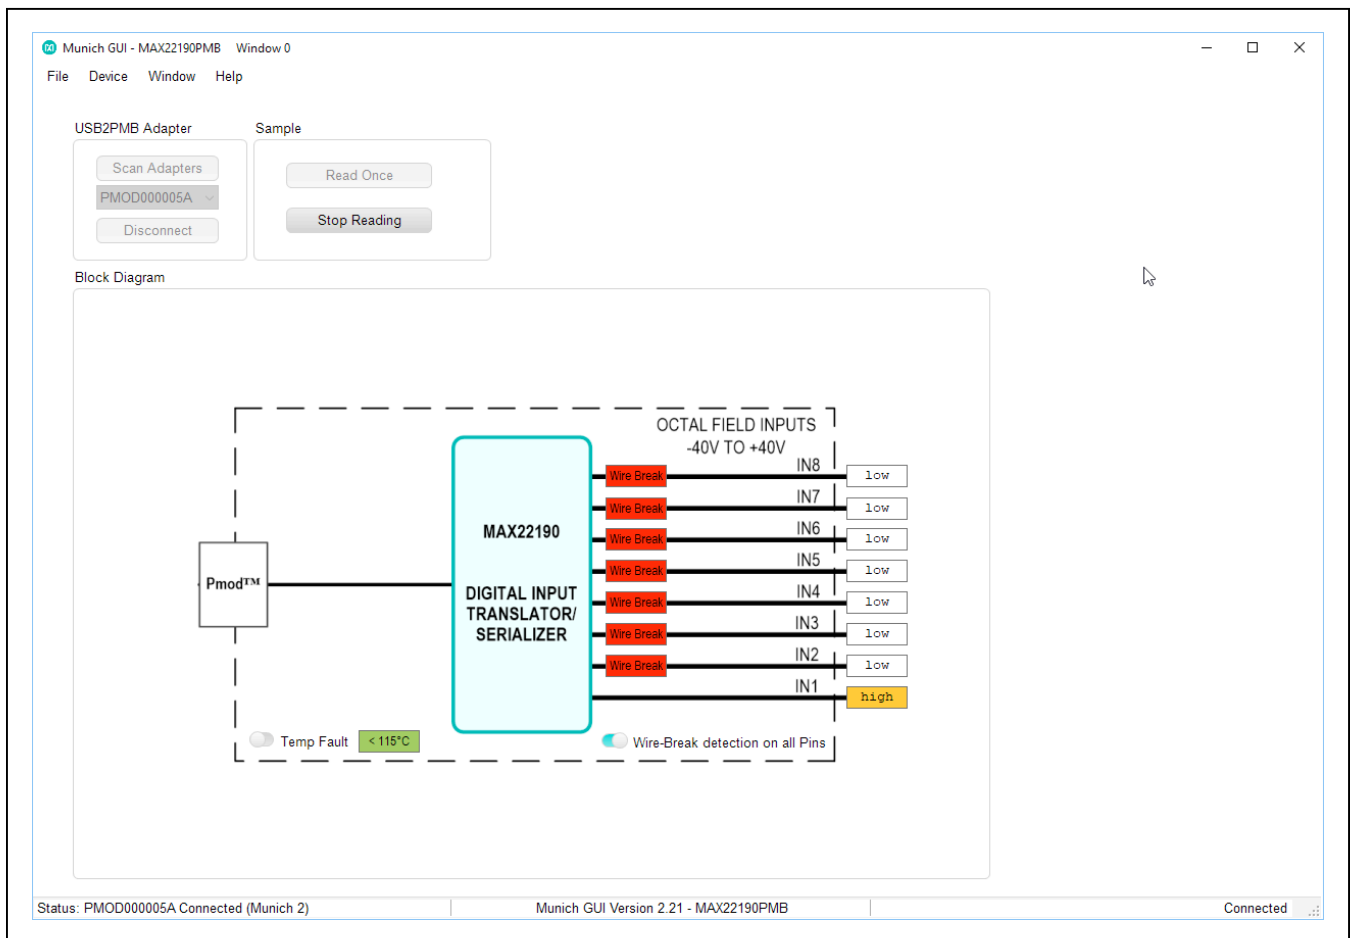

Figure 6. MAX22190PMB# Software IN1 High
- 10) Connect the negative output of the DC voltage supply to X2 Pin 2. Connect the positive output of the DC voltage supply to X2 Pin 1. Set the DC voltage supply output to 24V, and then enable the output. Observe that LED1 (green) should be turned on, and the Munich GUI should show **high** on IN1, and IN1 Wire Break box should disappear. See Figure 6. *Note: X2 Pin 2, 4, 6, 8, 10, 12, 14, 16 (inside pins) are all connected to GND. X2 Pin 1, 3, 5, 7, 9, 11, 13, 15 (outside pins) are connected to IN1 – IN8 respectively. See MAX22190PMB# Schematics.*
(green) should be turned on, and the Munich GUI should show **High** on IN1, and IN1 **Wire Break** box should disappear (see Figure 6).